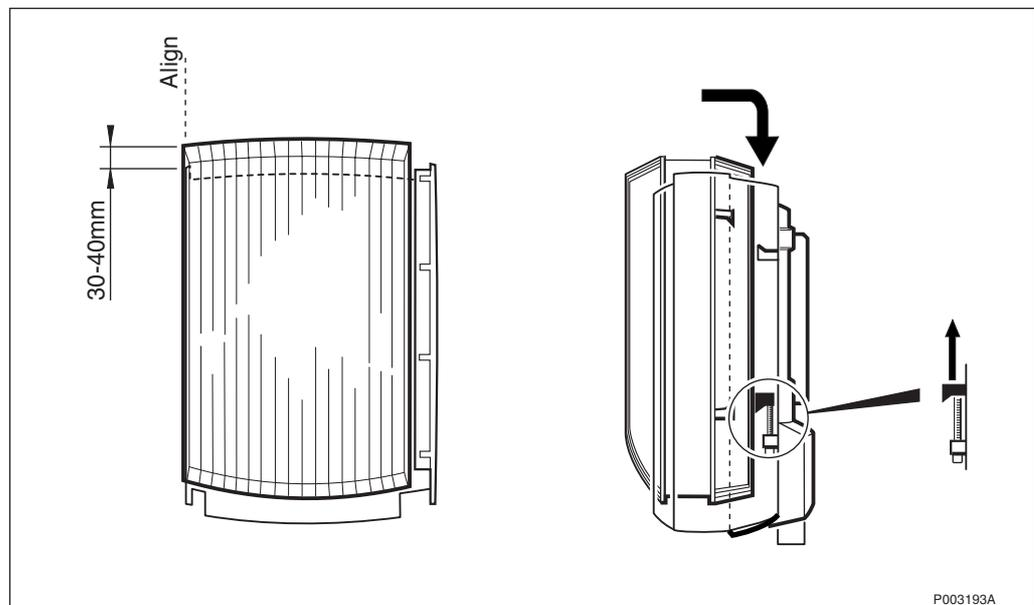

Figure 134 Hooking on the cabinet
2. Facilitate the mounting of the cabinet by aiming for the left side of the cabinet. Start by holding the cabinet a few centimeters above the mounting base. Make sure that the hooks are according to *Figure 134 on page 138*.